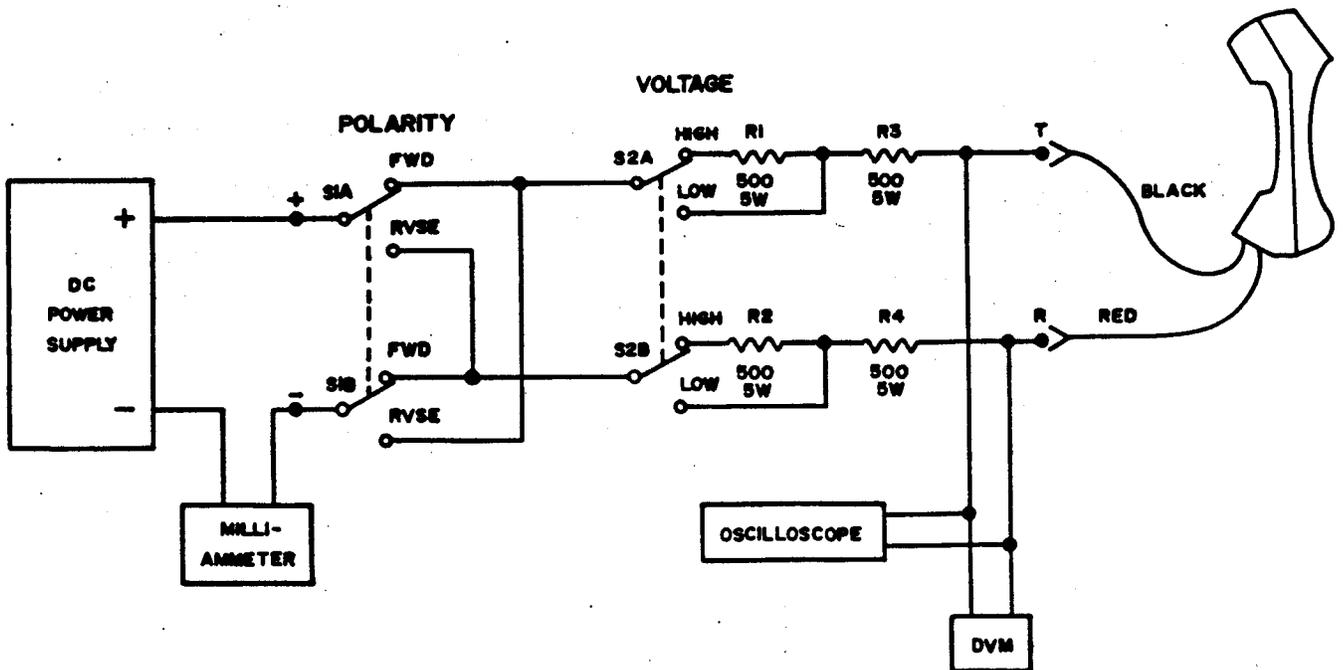

Fig. 11—Test Equipment Connections for Circuit Tests
- (1) Wire the four resistors and the two switches as shown in Fig. 11.
- (2) Label the switches and terminal points as shown in Fig. 11.
- (3) Connect the dc power supply, switch S1 and the milliammeter as shown in Fig. 11.
- (4) Connect the red and black test clips of the TS21 to the points designated (T) and (R).
- (5) Also connect the oscilloscope and the DVM to the points designated (T) and (R).
- (1) Set the power supply voltage to 30 ± 0.5 volts.
- (2) Position test fixture switch S2 to **LOW**.
- (3) Select the 200-volt dc scale on the DVM.
- (4) Select the 200mA scale on the milliammeter.
- (5) Connect the TS21 to the test fixture terminals as shown in Fig. 11.
- (6) Position the TS21 **TALK/MONITOR** switch to **M**.
- (7) The DVM should read 30 ± 0.5 volts.
- (8) The milliammeter should not indicate more than 12 microamperes.
- (9) Position the TS21 **TALK/MONITOR** switch to **T**.
- (10) The DVM should read between 5 and 10 volts.
- (11) The milliammeter should indicate between 21 and 23 milliamperes.